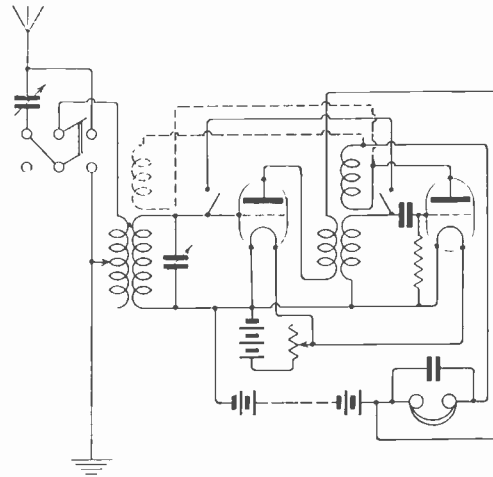

Fig. 6.
(1) See Figs. 6 and 7, page 707, August 26th issue. You will gain a good deal of useful information by reading the articles on "Experimental Station Design" appearing in alternate issues. See in particular the article in September 16th issue. (2) Range 50-100 miles.
(1) With a single-valve set you cannot use reaction when on "stand-by," as the Post Office will not permit reacting directly into the aerial coil. When receiving on "tune" position you can react into the closed circuit coil, which should be the centre coil of the three. With a two-valve set you may react into the H.F. transformer as explained in recent issues, and then it will not matter whether you are receiving on "Tune" or "Stand-by." (2) No. A grid leak and condenser is better. If you want to try a potentiometer, connect it up as shown in the H.F. amplifier panel, Fig. 6, page 809, September 16th issue. If no reaction is employed you will receive everything except pure C.W. telegraphy, although, of course, reaction, when judiciously used, greatly improves signals. (3) See Fig. 6.
"D.S." (Wilts).—With regard to the use of interchangeable transformer and resistance capacity coupling you may gain some useful information from the article on page 760, September 9th issue, also Fig. 6, page 741, September 2nd issue. We understand at present that the Postmaster-General has no objection to reacting into the closed circuit. Potentiometer control is not necessary with "R" valves but it may be useful with your valves. We anticipate your reaction trouble will disappear when further H.F. valves are used. See also article in September 30th issue.